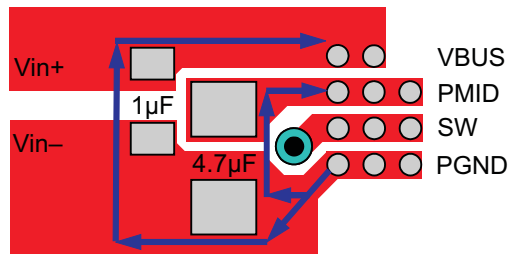

Figure 38. Input Capacitor Position and PCB Layout Example
- Place 4.7- μF input capacitor as close to PMID pin and PGND pin as possible to make the high frequency current loop area as small as possible. Place 1- μF input capacitor as close to VBUS pin and PGND pin as possible to make high frequency current loop area as small as possible (see Figure 38).